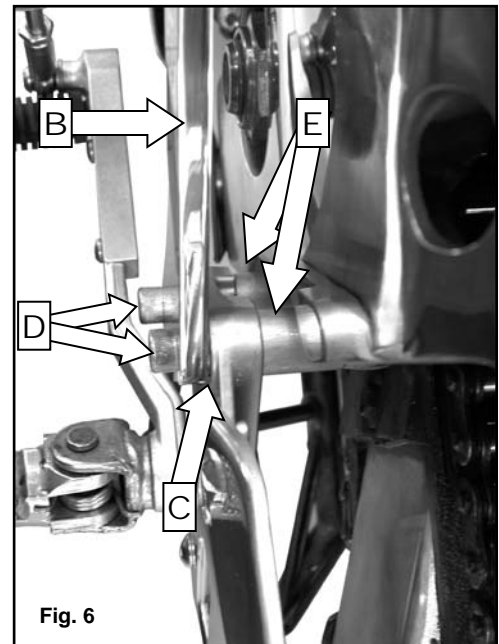

Fig. 6
Install the Pingel shift cylinder support bracket and the bracket that holds the foot peg/shift lever onto the motorcycle using the 8mm x 70mm socket head cap screws, (D) figure 6, through the shift cylinder support bracket, (B) figure 6, through the 0.405" long support bracket spacer (C) figure 6, which has a step turned into it (the step should face towards the inside of the motorcycle), through the 0.960" long spacers (E) figure 6 and into the original mounting locations, use thread locker on all bolts and tighten.